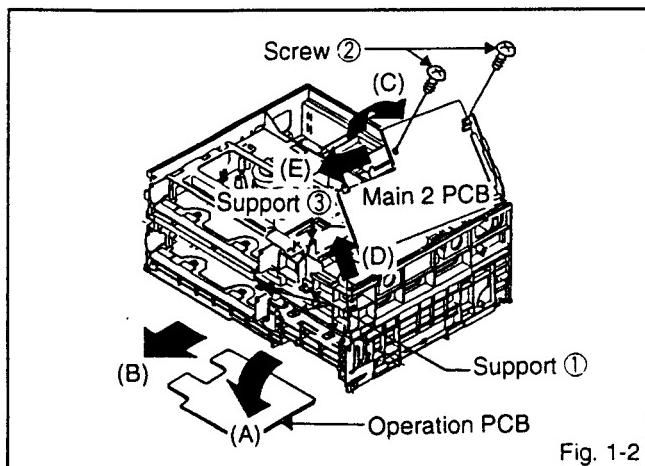

Fig. 1-2
### 2. OPERATION PCB (Refer to Fig. 1-2)
### 3. DECK 1/2 AND MAIN 2 PCB (Refer to Fig. 1-2 and 1-3)
1. Remove the 2 screws ②.(Refer to Fig. 1-2)
2. Open the MAIN 2 PCB in the direction of arrow (C).
(Refer to Fig. 1-2)